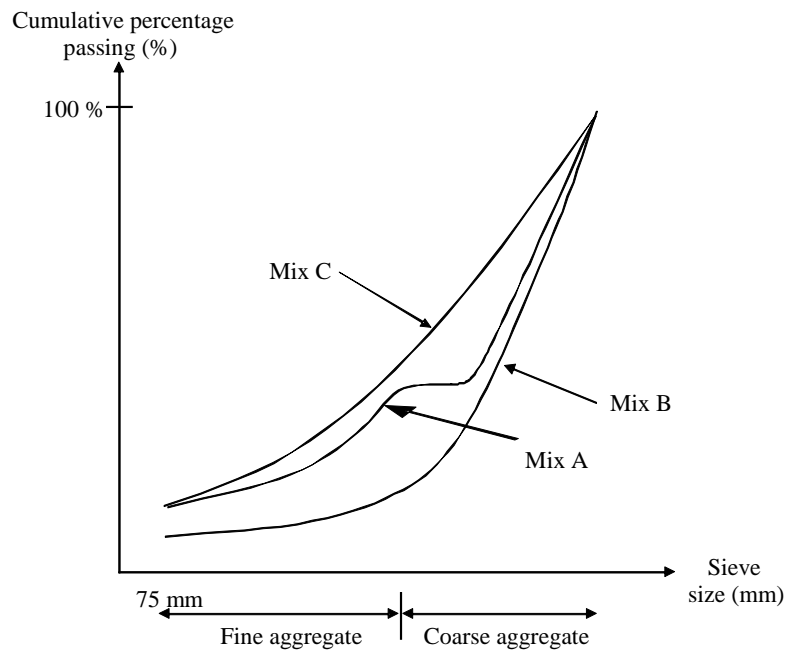

Figure 3
4. (a) (i) The aggregate gradations for three asphalt mixes are shown in **Figure 3**. From the figure, name the corresponding asphalt mix type and state your reasons.
- (ii) Choose ONE (1) mix type and explain briefly its sources of strength and stability.